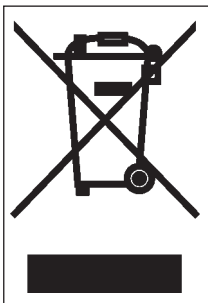

FIG. 4
To replace the battery, remove it by pressing the release button (15) (Ref. to Fig.4 page 24), then insert the new battery, sliding it into the guides until it locks.